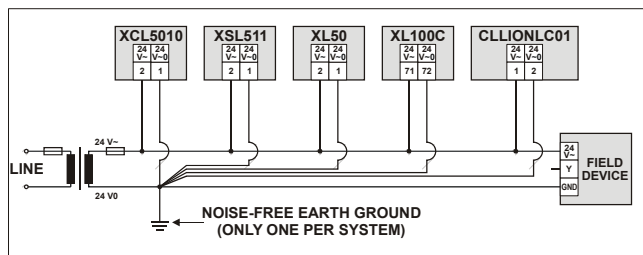

Fig. 111 Connecting and earth grounding mixed controllers (single transformer)
- ▶ Make sure that earth ground is connected to the correct terminal according to Fig. 111 and the respective connection diagrams.